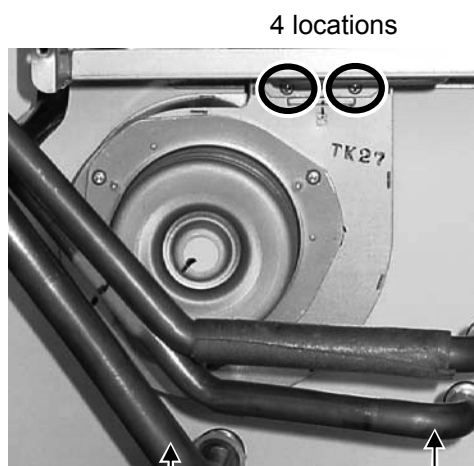

Figure 82
18. Remove the fan assembly (4 screws) and install it on the new heat exchanger. (Figure 82)
19. Install the largest O-ring (included in kit) over the water outlet tube and the two smaller O-rings (included in kit) over the water inlet tubes. (Figure 82)
20. Slide the fusible link between the water outlet and inlet tubes and onto the new heat exchanger. (Figure 82)